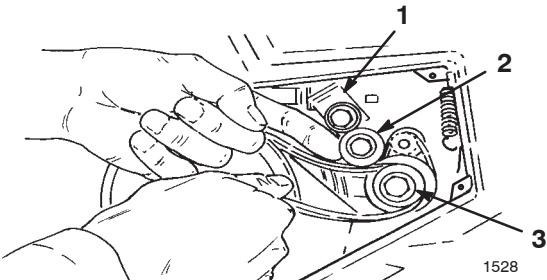

Figure 20
4. Slip the new belt over the small pulley (Fig. 20).
- Lift up the idler arm and slip the belt under the idler pulley (Fig. 20).